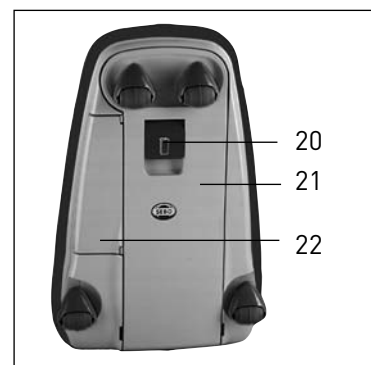
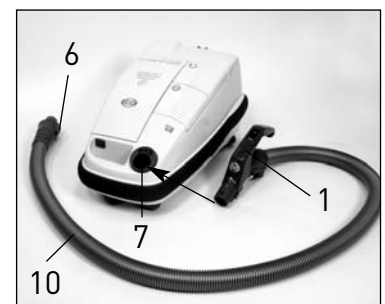

Figure 13
Figure 16
To change the filter bag, set the canister upright (as shown in figure 13), pull the cover release flap outward (20) and lift the cover (21) from the filter bag housing. **The cover release flap must remain in an outward "pulled-out" position to change filter bags and lock them into place.** Squeeze the clamps (42) on both sides of the filter bag sealing plate (41), slide the plate from the holder (40) and push the filter bag cap on to seal the bag. Slide the sealing plate (41) of a new bag into the holder and push it in firmly until it locks into place. Re-insert cover (21) into filter bag housing, push it forward, then lock it in place by pushing down the cover release flap (20). You may find it convenient to store the bag cap inside the filter bag housing below the filter bag. Do not re-use the filter bags. Note: the nature of the contents of the filter bag will affect the point at which it needs changing. Fine dust may require an earlier change even though the bag is not full. Fluff or hair allows air to pass through easily, so the filter bag may overfill before the amber "bag full" light illuminates.
Changing the Exhaust Filter - Figures 13 & 14
The exhaust filter (43) needs to be changed when it becomes extremely dirty or clogged with dust, or after approximately 10 to 20 filter bags have been used. To remove the exhaust filter, set the canister upright (as shown in figure 13), pull the cover release flap (20) outward and lift the cover (21) from the filter bag housing. Then, slide the exhaust filter housing (44) out. Pull the filter out. To replace, slide the new filter into the exhaust filter housing. Replace the exhaust filter housing (44), re-insert cover (21) into filter bag housing, push it forward, then lock it in place by pushing down the cover release flap (20).
Changing the Micro-Hygiene Filter - Figures 13 & 14
After 10 to 20 bags have been used, change the micro-hygiene filter (45). To remove the micro-hygiene filter, set the canister upright (as shown in figure 13), pull the cover release flap (20) outward and lift the cover (21) from the filter bag housing. Then, slide the filter (45) out. To replace, slide in the new filter, re-insert cover (21) into filter bag housing, push it forward, then lock it in place by pushing down the cover release flap (20).
Clogs in the Hose - Figure 16
Remove hose (10) from vacuum cleaner (see figure 16) and remove filter bag cover (figure 13, page 9). Clean out entrance to bag (50).